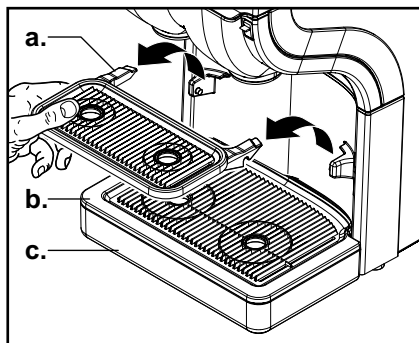

Fig. 32
2. Remove cup tray (a.), drip grid (b.) , and drip tray (c.), (fig. 32)